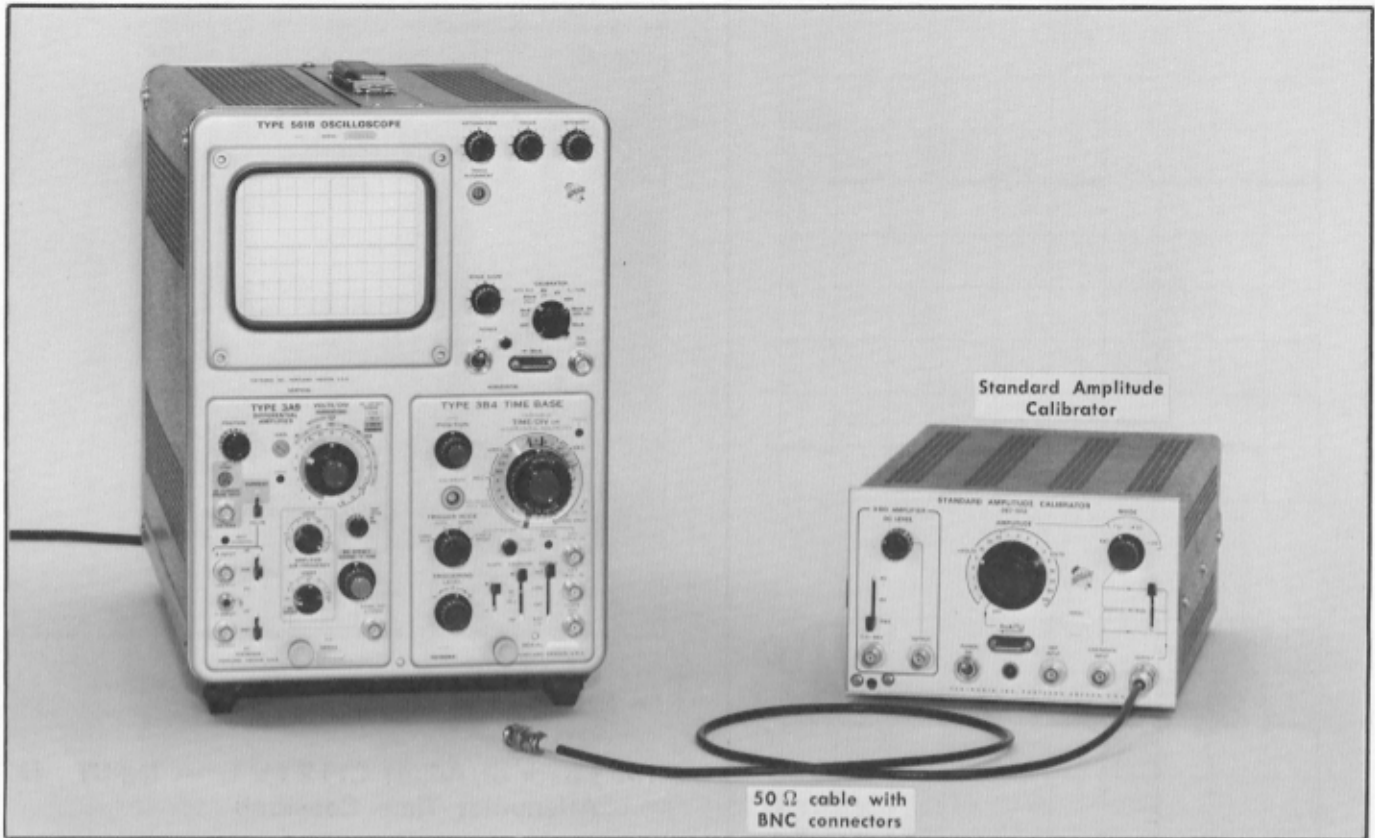

Fig. 5-17. Equipment required for step 16.
- Test equipment is shown in Fig. 5-17.